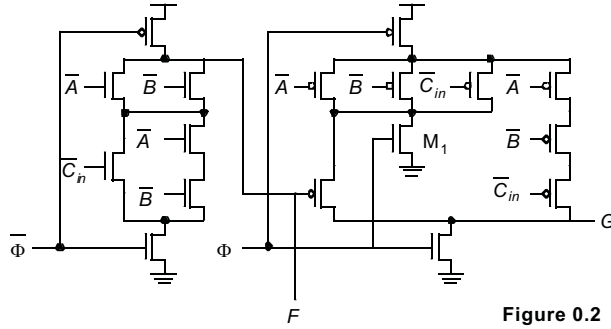

Figure 0.2 Datapath module bit-slice.
5. [M, None, 11.3] Consider the dynamic logic circuit of Figure 0.2.